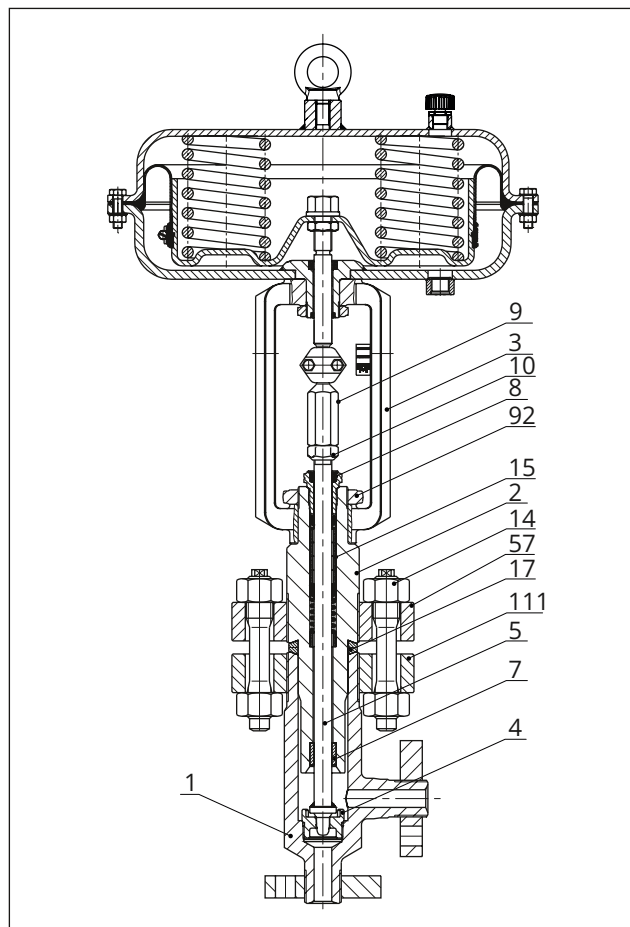

Fig. 17: Standard version of Type 3259
16. Carefully slide the packing parts over the plug stem into the packing chamber using a suitable tool. Observe the proper sequence (see Fig. 17).
17. Insert the bolts (13) through the threaded flanges (57, 111) and tighten them. Observe tightening torques.
18. Tighten the body nuts (14) gradually in a criss-cross pattern. Observe tightening torques.
19. Screw in the threaded bushing (8) and tighten it. Observe tightening torques.
20. Place yoke (3) on the intermediate piece (2) and fasten using the castellated nut (92).
21. Loosely screw the lock nut (10) and stem connector nut (9) onto the plug stem.
20. Place yoke (3) onto the insulating section (21) and fasten using the castellated nut (92).